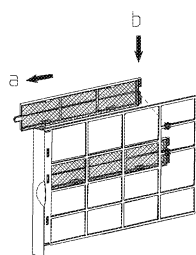

Figure 17
- Attach the two purifying filter frames back into the main filter (See Figure 17).